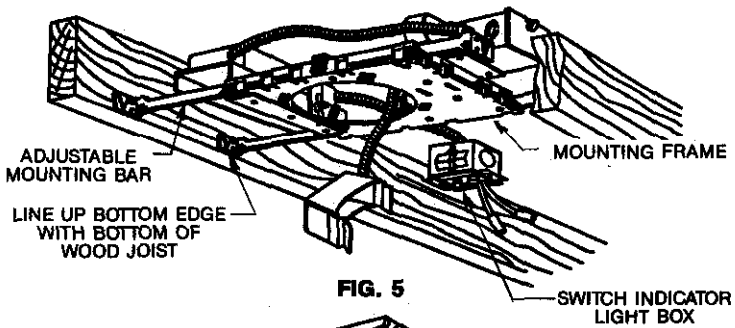
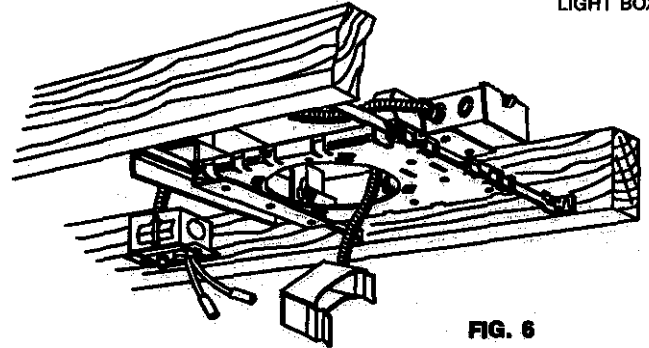

FIG. 5
FIG. 6
Fasten MOUNTING FRAME to wood joist. Line up bottom edge of ADJUSTABLE MOUNTING BAR with bottom of wood joist (Fig. 5). Wire to supply leads. (For Cable, use built-in Cable Clamp in J-Box.)
1. ADJUSTABLE MOUNTING BARS are pre-assembled on long side of MOUNTING FRAME for rigidity and ease of installation, Fig. 5. The MOUNTING BARS must be removed and installed on narrow side of MOUNTING FRAME if installed between joist on 16" spacing, Fig. 6.